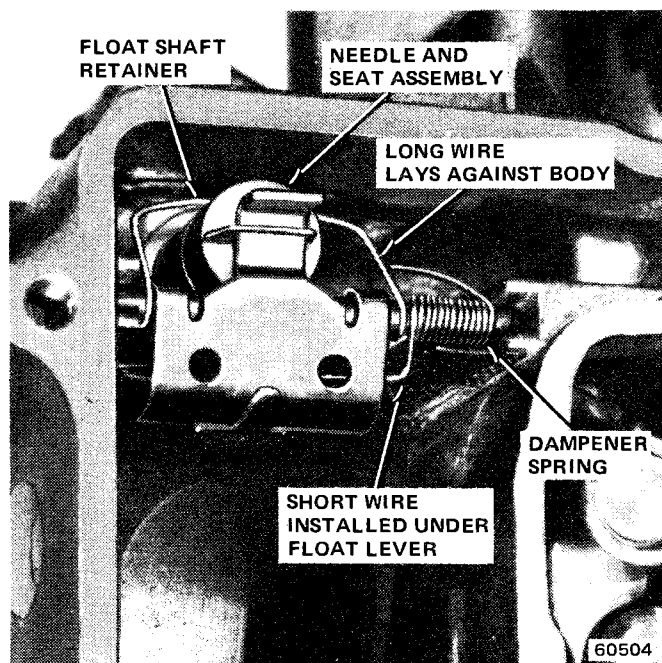

Fig. 1J-84 Damper Spring Installation
(12) Install main jets.
(13) Install fuel inlet seat and replacement gasket. Install fuel inlet needle assembly in fuel inlet seat. Fuel inlet needles and seats are matched assemblies. Be sure correct needle and seat are assembled together.
(14) Slide float shaft into float lever. Position float shaft retainer on float shaft.
(15) Install float damper spring with short wire under float lever (fig. 1J-84).
(16) Insert float assembly into fuel bowl and hook float lever tab under fuel inlet needle assembly. Insert float shaft into its guides at sides of fuel bowl.
(17) Press float shaft retainer into groove on fuel inlet needle seat and check float setting. Refer to Service Adjustment Procedures.
(18) Drop accelerator pump discharge ball into passage in main body.
(19) Position replacement booster venturi gasket and booster venturi in main body.
(20) Drop accelerator pump discharge weight into booster on top of discharge ball.